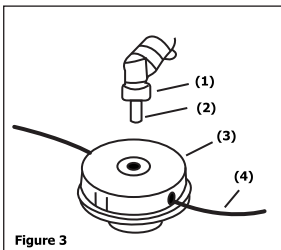

Figure 3
- (1) Nut
- (2) Outer holder 1
- (3) Outer holder 2
- (4) Blade
- (5) Gear shaft
- (6) Bar
- (7) Inner holder
- (8) Gear case
■ INSTALLING THE NYLON CUTTER (OPTION) (Figure 3)